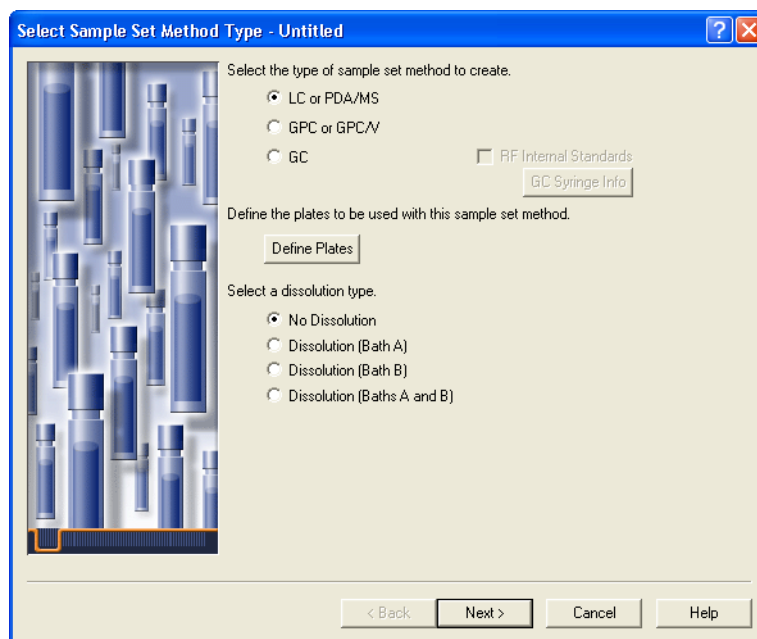

Figure 5-2 New Sample Set Method Wizard, Select Sample Set Method Type Page
2. Click  (New Sample Set Method Wizard) to activate the New Sample Set Method Wizard. The Select Sample Set Method Type page appears (Figure 5-2).